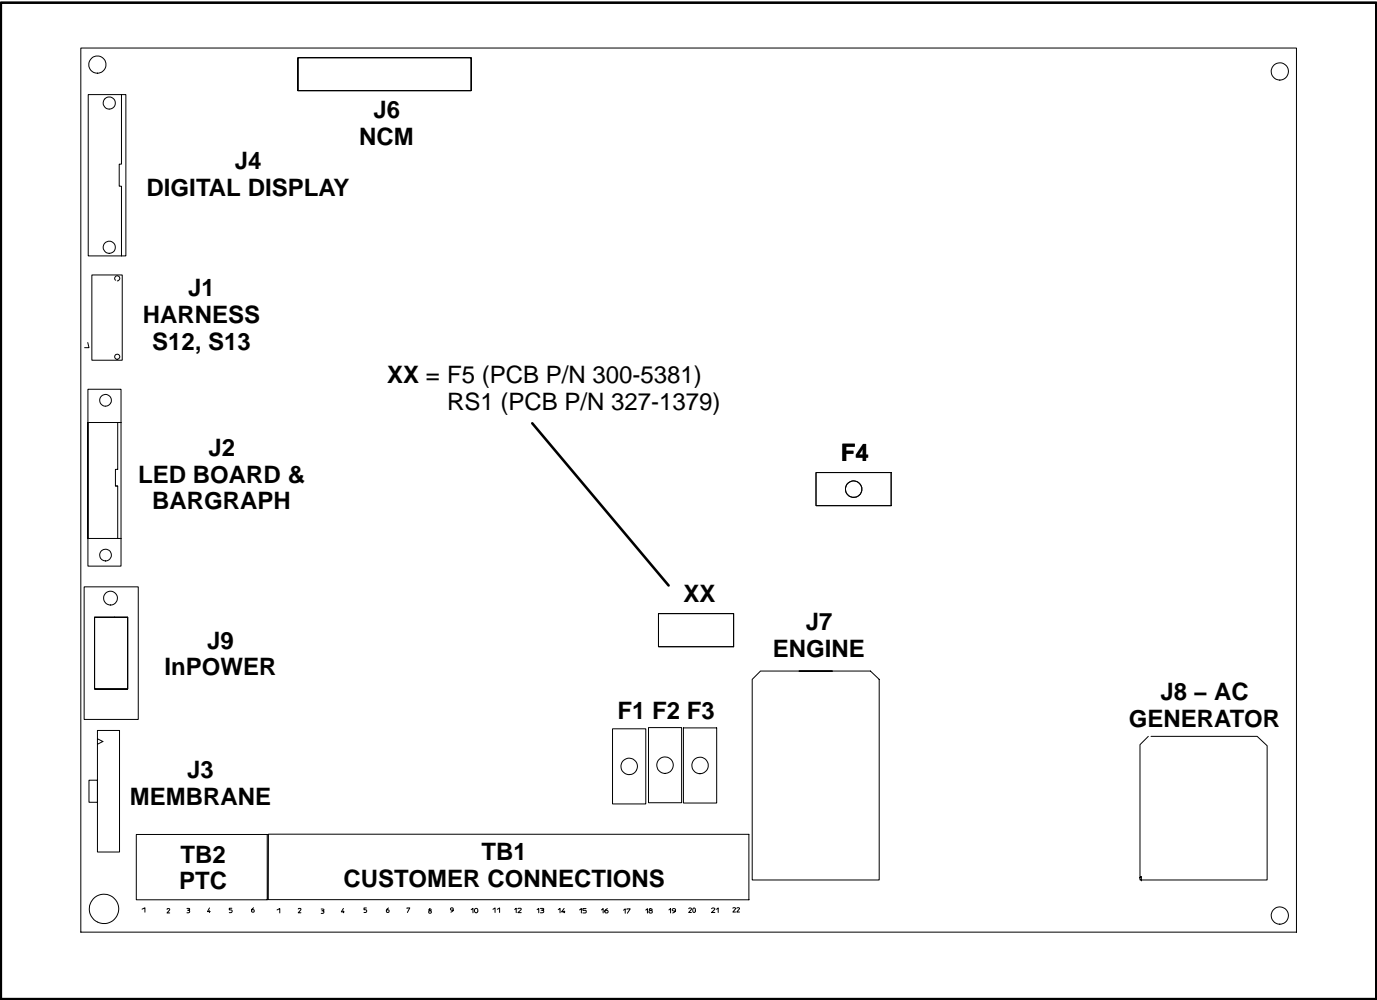

FIGURE 3-3. BASE BOARD
The base circuit board (Figure 3-3) contains all of the electronic circuitry required to operate the generator set. The Base board provides fuel control and engine speed governing, main alternator volt-
The following paragraphs describe each of the connectors (J), fuses (F) and terminal boards (TB) shown in Figure 3-3.